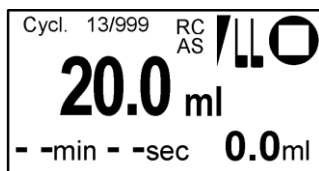

Fig. 47: Main display
- ➔ Main display appears (see Fig. 47)